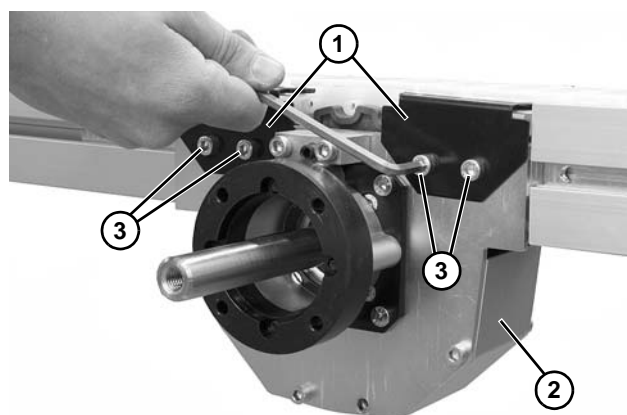

Figure 70
7. Install belt hold down tabs (**Figure 70, item 1**) to drive assembly (**Figure 70, item 2**) using four socket head screws (**Figure 70, item 3**).